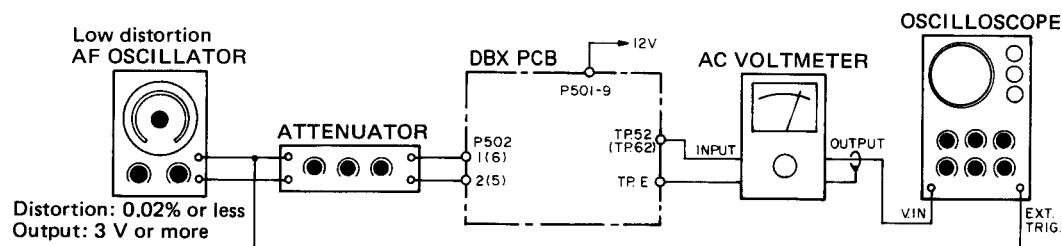

Fig. 5-12
2. Make the Fig. 5-12 connections, then feed 100 Hz, -8 dB (308 mV) to 1(6) terminal (INPUT).